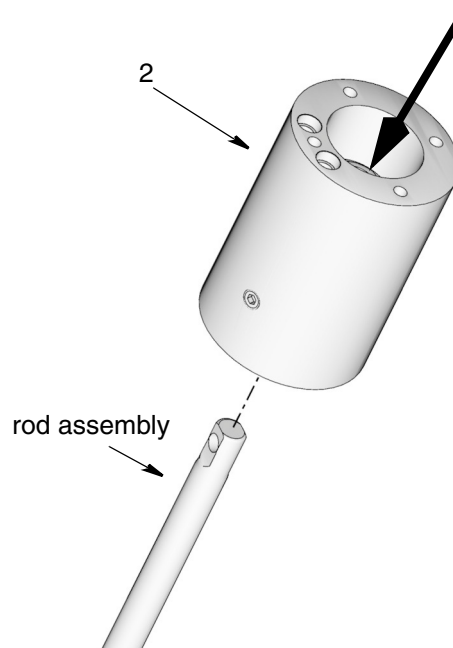

FIG. 30
19. Remove intake seal (207) and seal (206). Discard these parts. Use new parts included in the kit for reassembly.
20. Use a hammer or rubber mallet to tap the rod assembly out of the pump adapter (2) in the direction shown in FIG. 30.